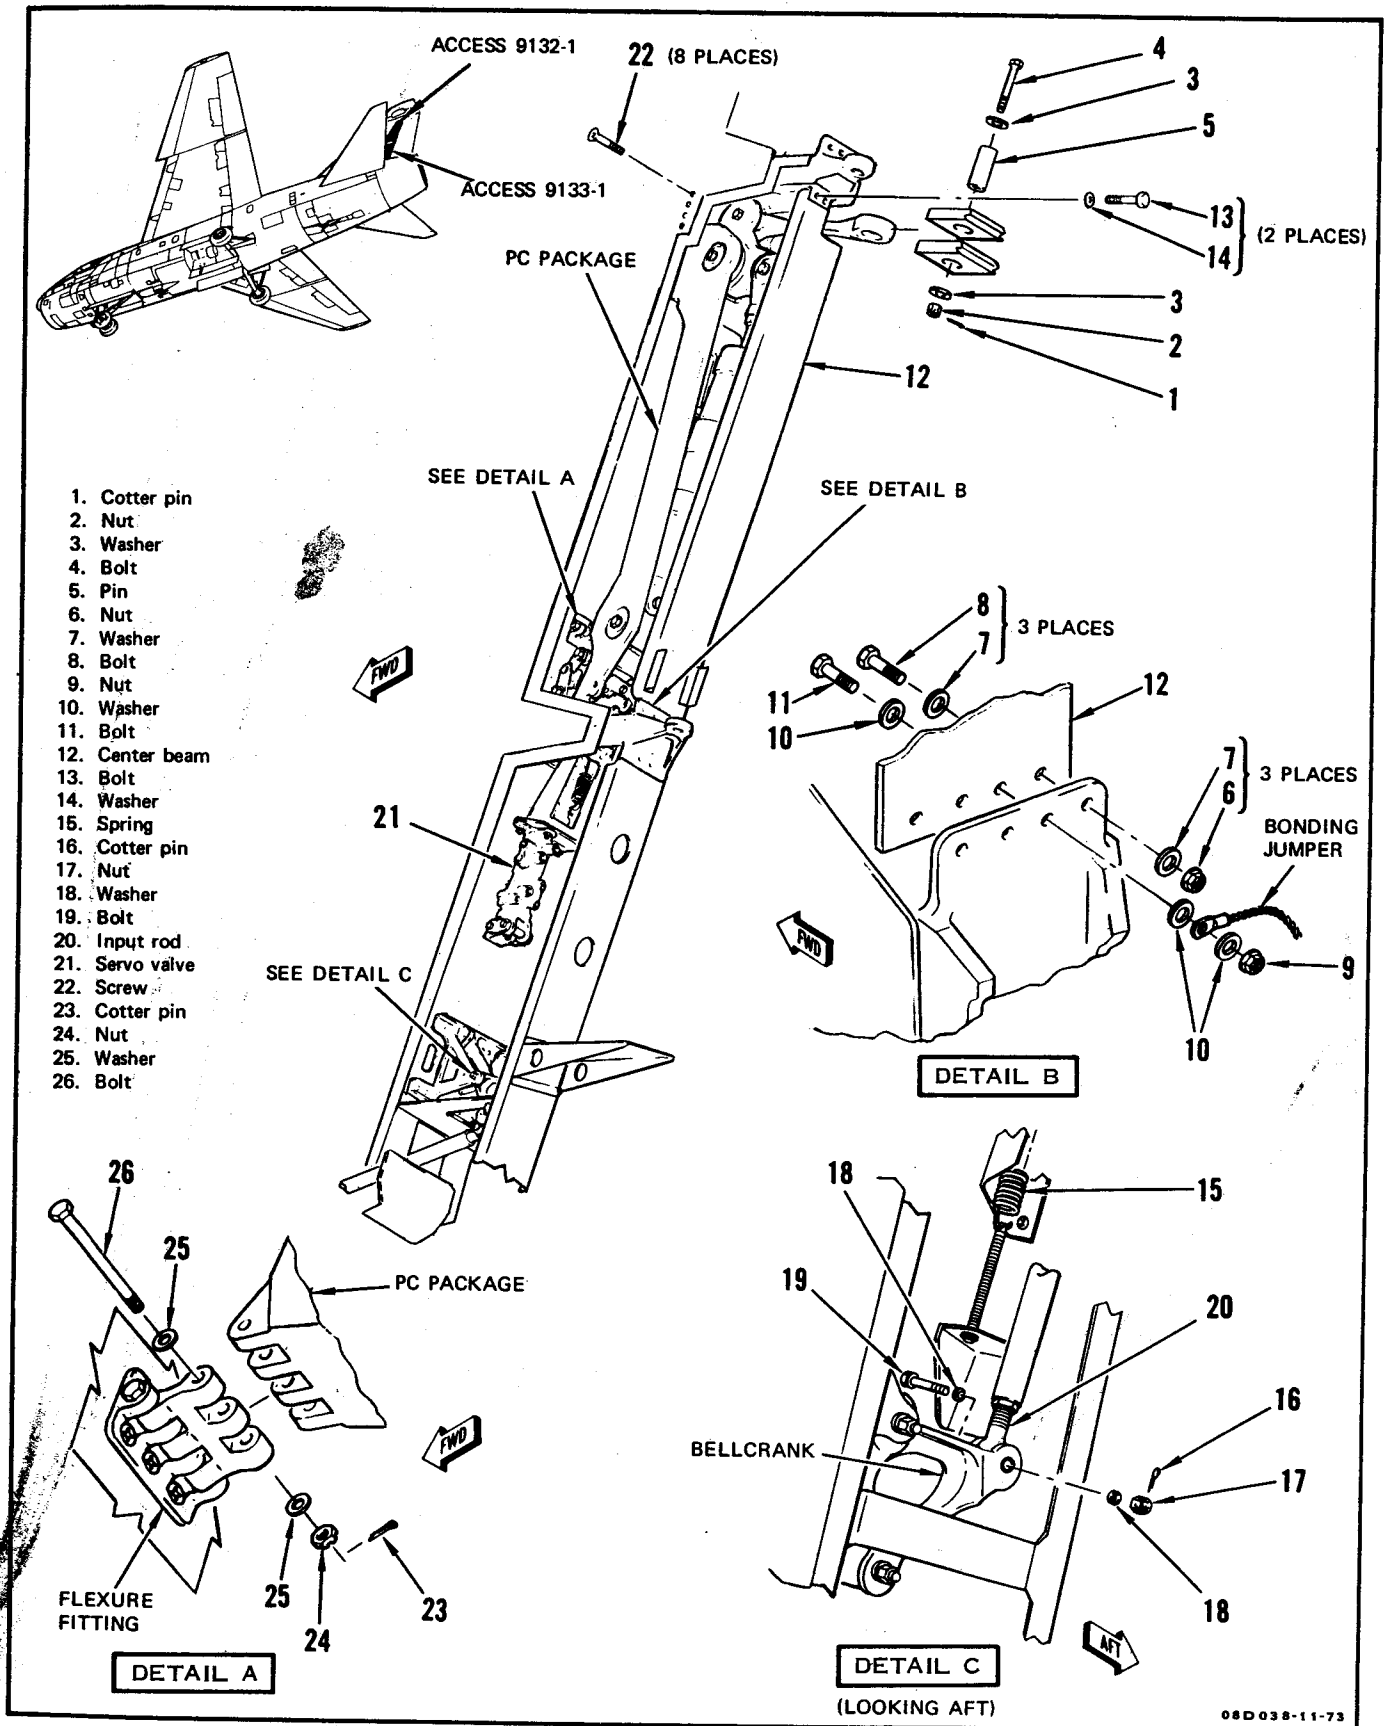

Figure 5-17. Rudder PC Package Removal and Installation
c. Disconnect false beam (1, figure 5-17) access to rudder PC cylinder rod end.
b. Remove false beam (1, figure 5-17) to gain access to rudder PC cylinder rod end.
e. Install retainer (17) on piston rod and into cylinder.
f. Install retainer nut (15) in cylinder. Tighten nut to 600 ( $\pm 100$ ) pound-inches torque and secure with MS20995C32 lockwire.
g. Install jamnut (1) and lockring (14) on rod end (13) and turn down to bottom threads on piston rod.
j. Install pin (11), two washers (10), bolt (9), and nut (8) to connect rod end (13) to rudder bellcrank (12). Do not install cotter pin.
k. Tighten jamnut (1) to 1,150 ( $\pm 150$ ) pound-inches torque against rod end shoulder. Do not install lockwire.
l. Lubricate pin (11) with MIL-G-81322 grease through grease fitting on bellcrank.
m. Connect followup rod end (6) to rod end (13) with two washers (5), bolt (4), and nut (3). Do not install cotter pin.
n. Disconnect fill and check stand from top cylinder port and connect hydraulic line (16) to PC cylinder.
o. Temporarily install false beam (1, figure 5-17).
5-76. REMOVAL. (See figure 5-17.)
5-77. **INSTALLATION.** (See figure 5-17.)